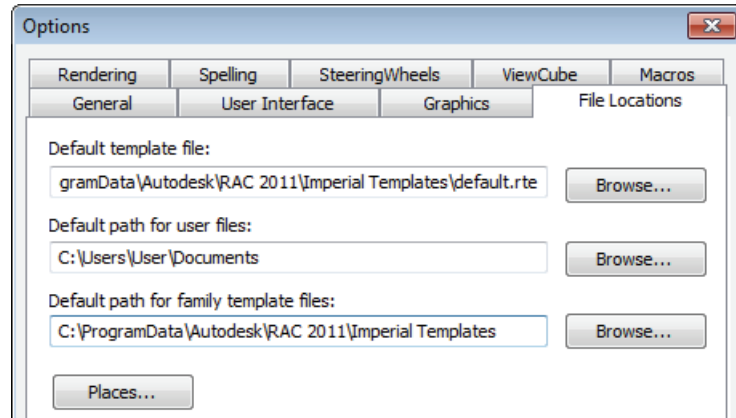

Figure 1–39
- When you save a title block, it should be on the network where everyone has access to it. That way, it is not deleted if someone reinstalls Autodesk Revit. Set the default location for the family template files in the Options dialog box, in the *File Locations* tab, as shown in Figure 1–39.